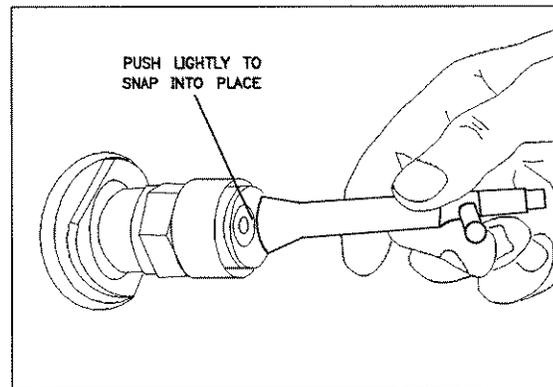

Figure A-3. Gently Press the Collet into Place
4. Using a blunt plastic rod (or the rounded plastic handle of the collet removing tool) press the collet gently until it snaps into place (Figure A-3).